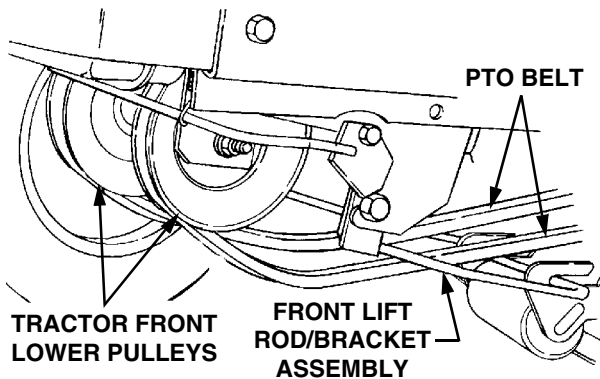

Figure 60
- Twist the PTO belt 1/4 turn to engage the narrow sides of the belt into the grooves of the two tractor front-lower pulleys (Refer to Figure 60).